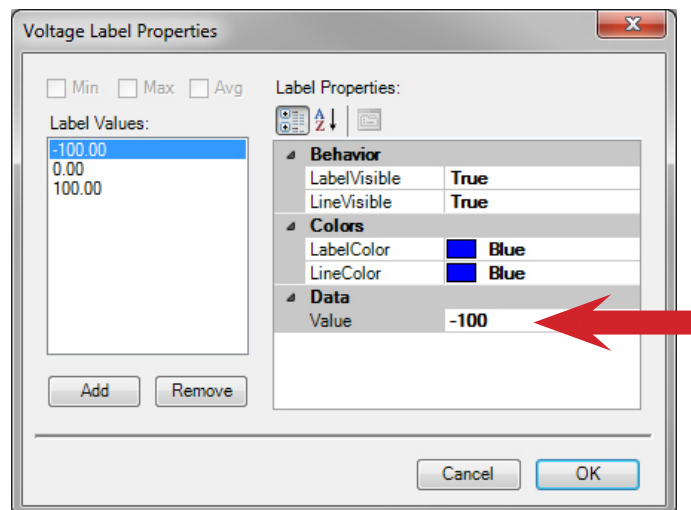
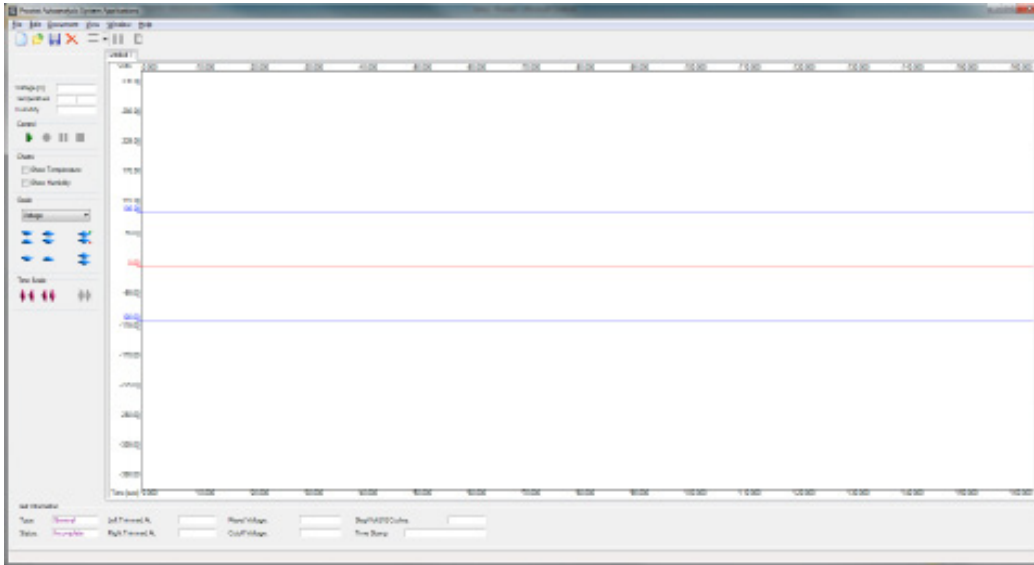

Figure 17: : In the Data section enter Voltage Value where a Chart Line is desired
Figure 18: New Chart with Red Zero Line and Blue Labels and lines at ±100
9. Repeat for “-100”, i.e., enter “-100” in the Data “Value” section. Open the Color Drop down menu and select Blue. -100 will appear in the “Label Values” window. See Figure 17. Click OK and your plotting chart resembles Figure 18, on the next page.